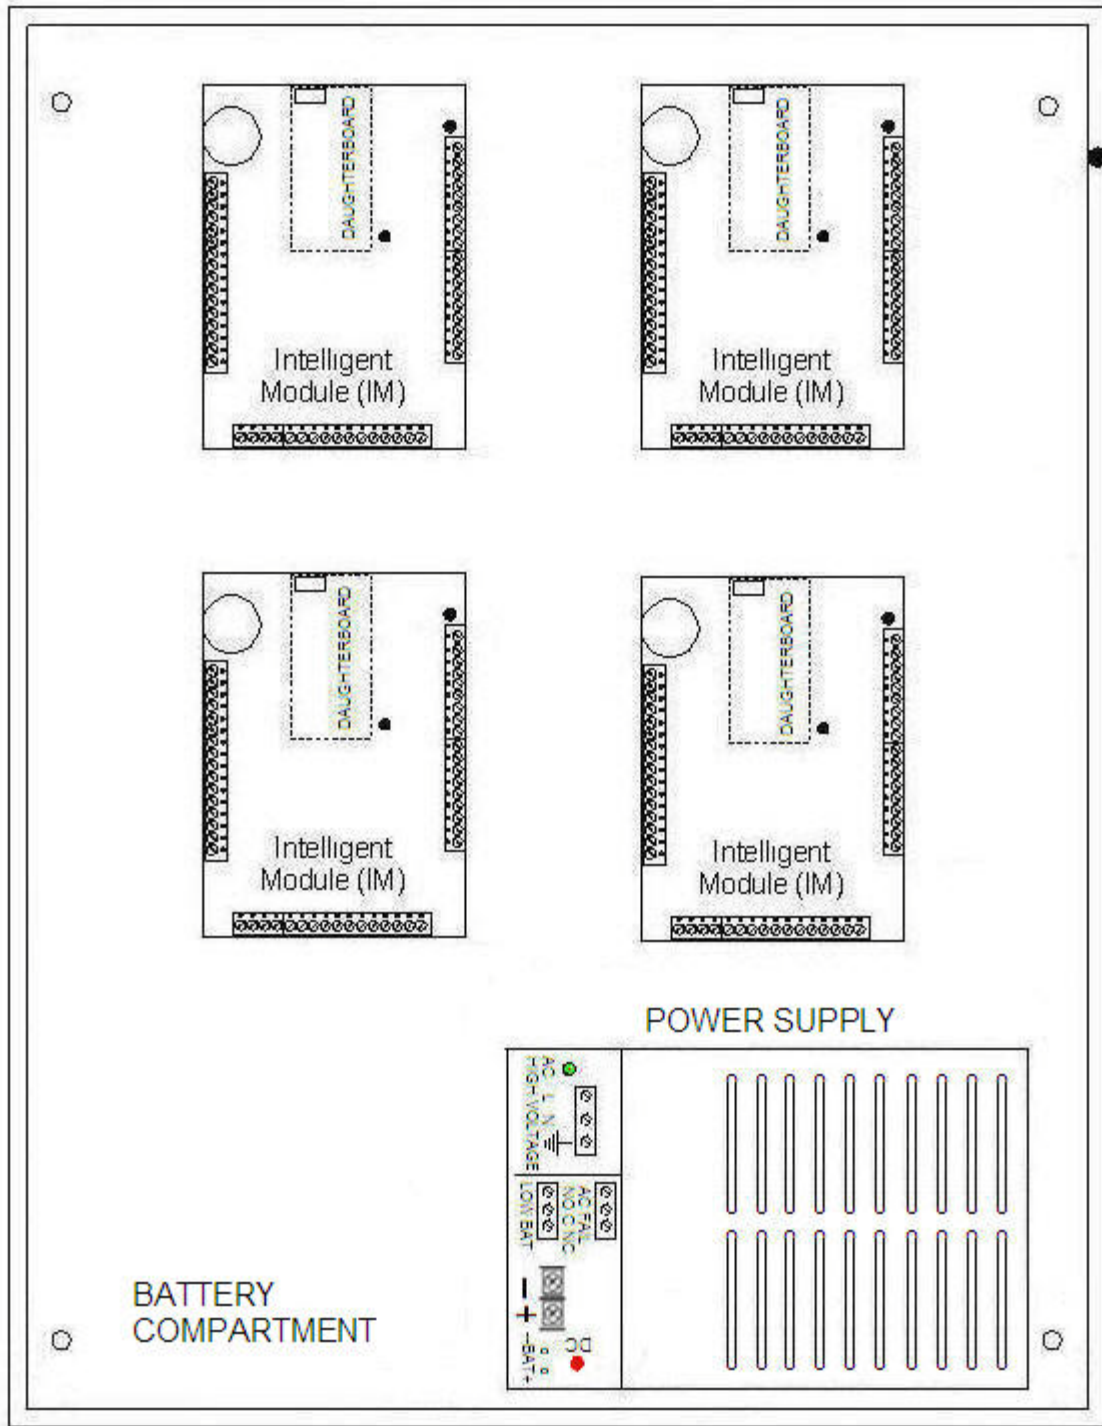

Figure 3-3. Contents of a Four-Module Enclosure
- Four-Module Enclosure (18" x 22.25" x 4.5") that can house four Intelligent Modules, a 12V 6.5A power supply, and the backup battery (see Figure 3-3)